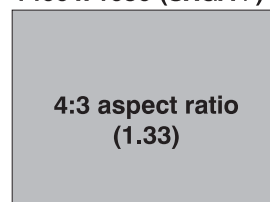

Figure 2.18. Aspect Ratio
- Screen Aspect Ratio** ➤ Aspect ratio (Figure 2.18) describes the proportion of the screen and is expressed as the ratio of width to height, such as “4:3” or “5:4”. Although image size and image aspect ratio can both be adjusted quickly through projector software, it is still a good idea to choose a *screen* aspect ratio which is most appropriate for your intended applications.